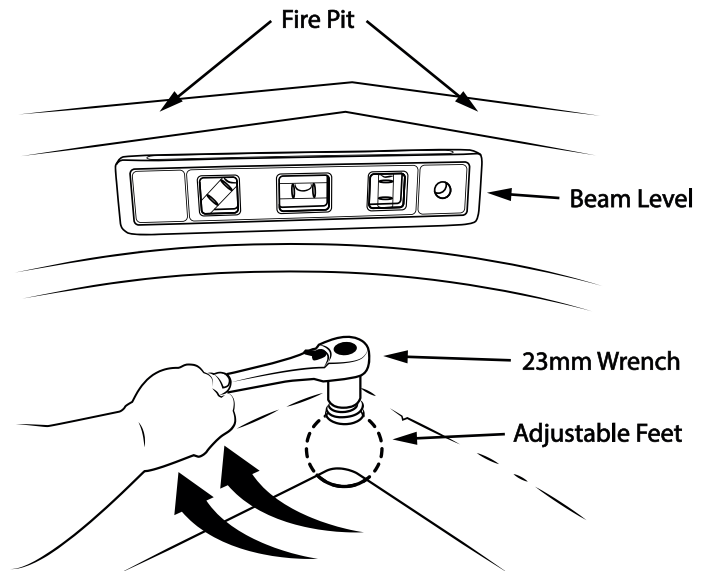

FIG. 5-2
2. Use a **23mm socket or wrench** on the top of the leveling feet from inside of the fire pit. (FIG. 5-2).
3. Using a **level** on top of the fire pit, check the bubble and adjust the individual leveling feet to your desired adjustment (FIG.5-2).